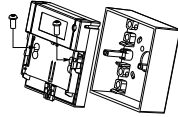

Fig. 5: Body and back-box fixing screws
- Screw the body to the back-box with the CS3 x 30 screws supplied (see Fig. 5).